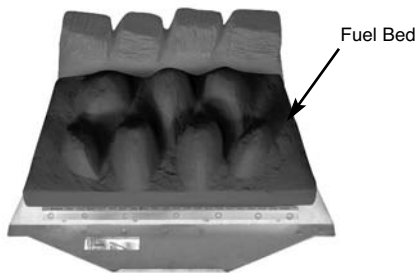

Fig. 86
2. Place the main fuel bed on to the middle section of the metal burner tray. It is important that the front edge of the fuel bed is located behind the burner strip (Fig. 86).